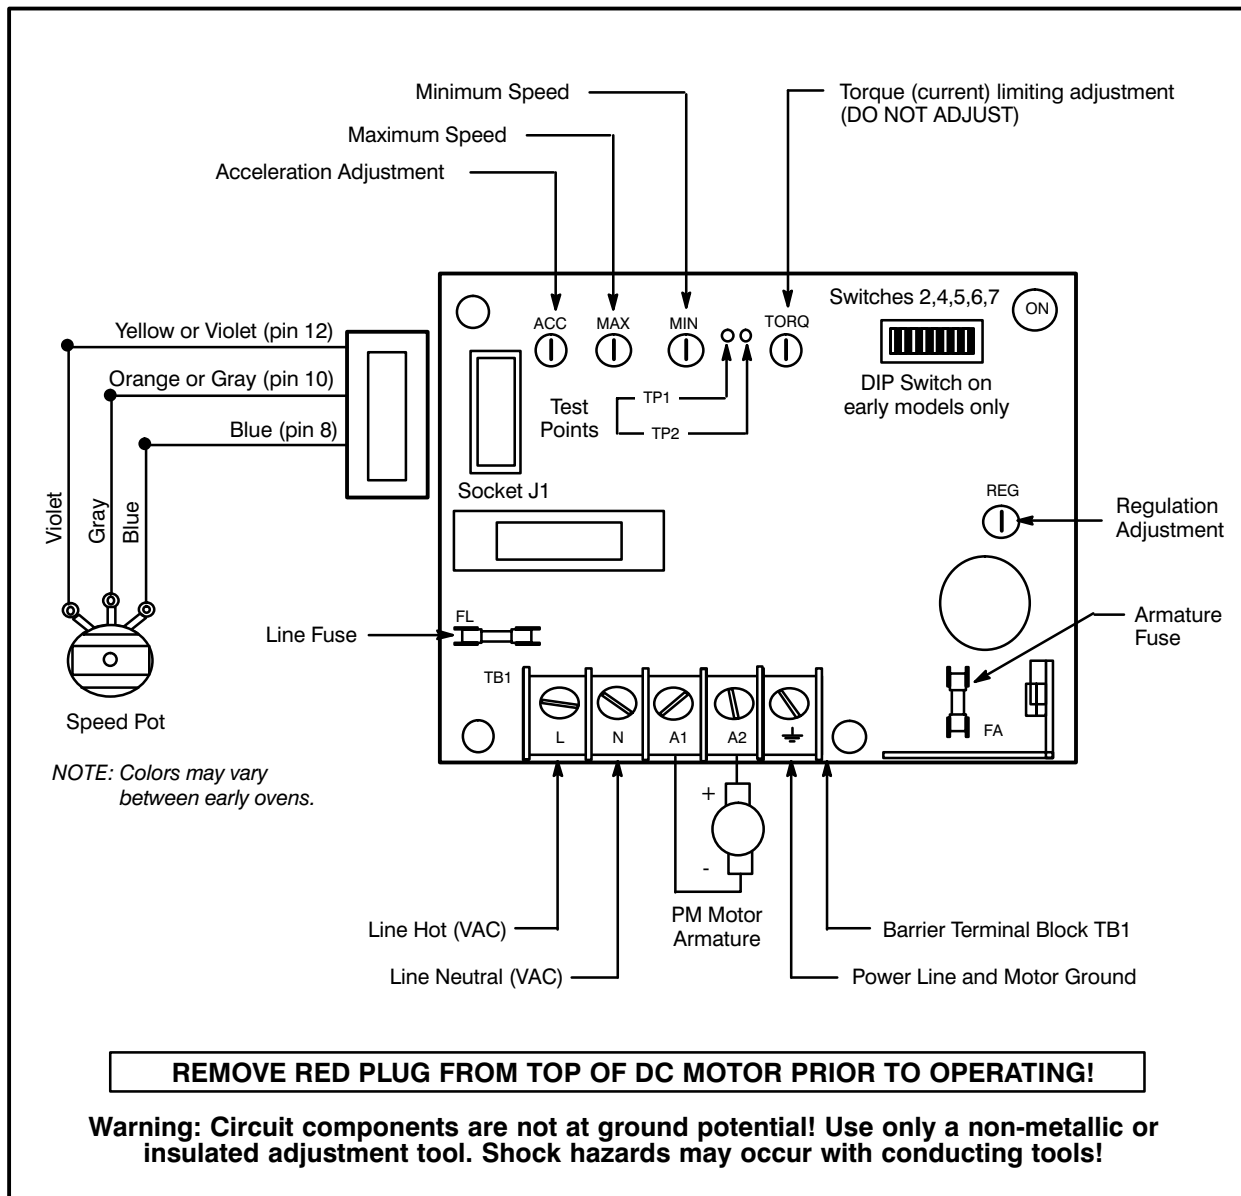

FIGURE 9
1. With the motor connected (make no open circuit voltage readings) measure the voltage at the motor leads (A1 & A2 in FIGURE 9) on the DC control board. If the voltage is not within 3 VDC of the specified voltage continue with step 3.
1. With the motor connected (make no open circuit voltage readings) measure the voltage at the motor leads on the DC control board (A1 & A2 in FIGURE 9). If the voltage is not 26VDC +/- 1 VDC, continue with step 3.